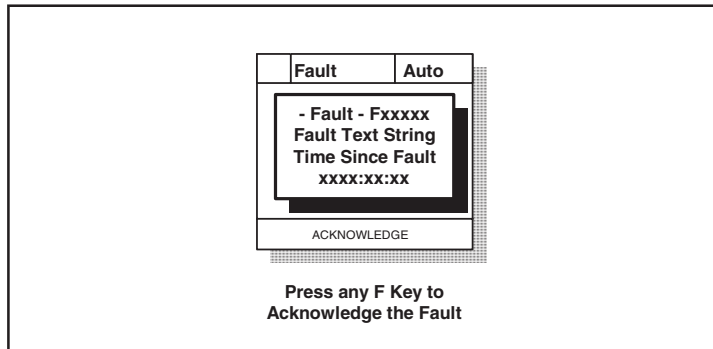

Figure 12.4 – Sample Fault Screen on the LCD OIM
- Drive status parameters Drive Status 1 (209) and Drive Status 2 (210).
- Pop-up screen on the LCD OIM. See figure 12.4. The screen displays: